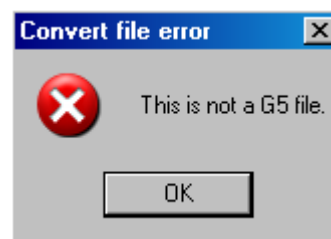

Figure 4.15: Select File Error
3. The File Open window (Figure 4.1) will appear. Select the G5 file you wish to convert by clicking on the file to highlight and then click on **Open**. If the file that is selected is not a G5 parameter file, a warning as shown in Figure 4.15 will appear and the conversion will abort.